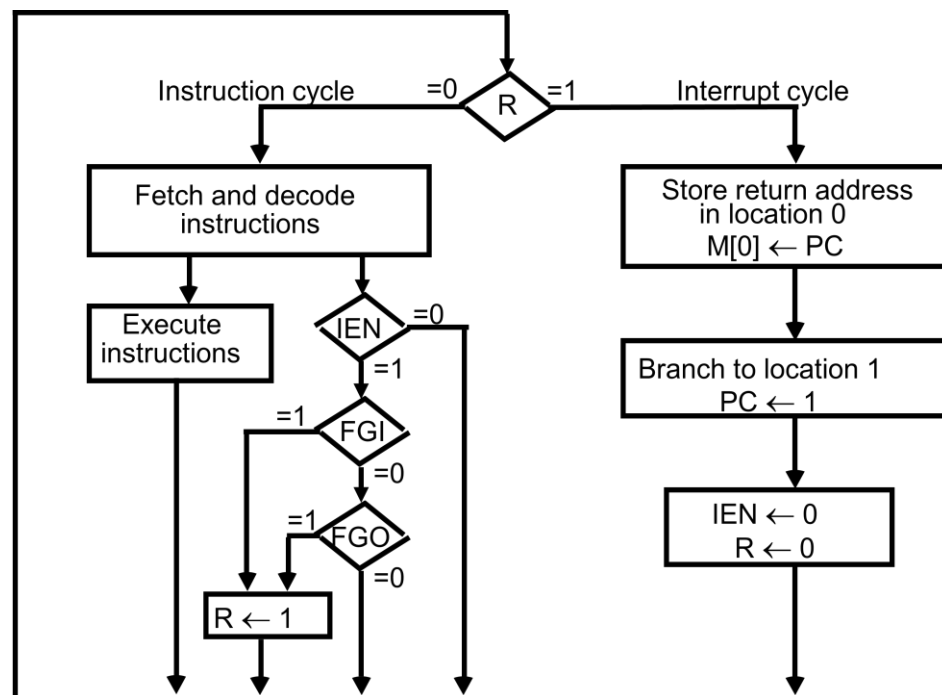

Figure 2.13: Flowchart for interrupt cycle
- The way that the interrupt is handled by the computer can be explained by means of the flowchart shown in figure 2.13.